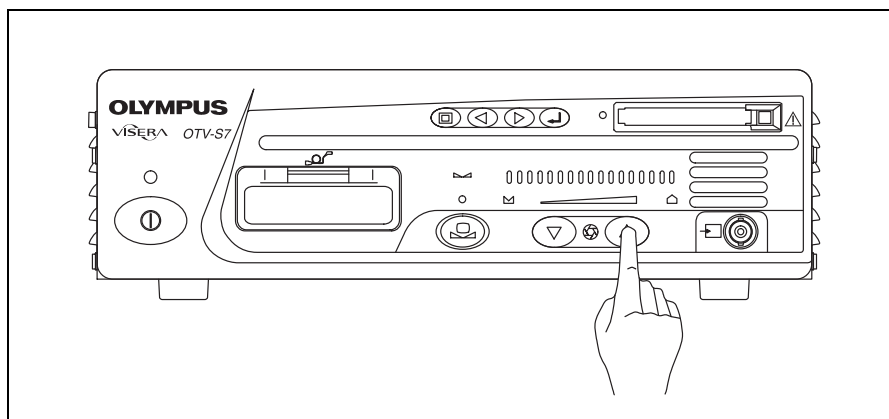

Figure 5.28
1. Depress one of the exposure level switches (see Figure 5.28) or press the “Shift” key and “↑/↓/←/→” key on the keyboard at the same time.